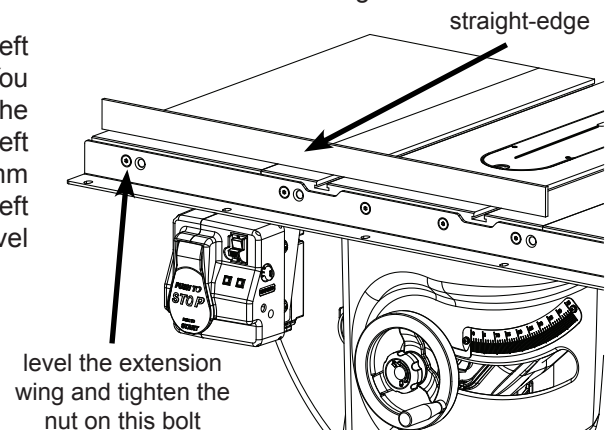

Fig. 5
5. Use a straight-edge to level the front edge of the left extension wing to the cast iron table top (see Fig. 5). You may have to pull up or push down on the outer edge of the extension wing to level it. Once the front edge of the left extension wing is level, use a 5 mm hex key and a 13 mm wrench to fully tighten the nut on the bolt that mounts the left extension wing to the front rail. Repeat this process to level the front edge of the right extension wing.